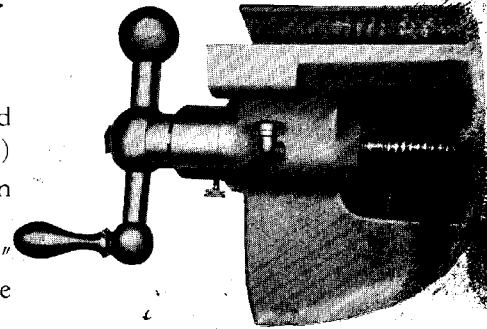

Fig. 2
3. Unscrew the lock nut from the cross screw. (This nut is located directly behind the front wall of the knee, as shown in Fig. 2.)